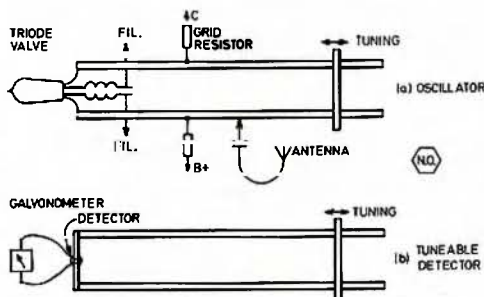

FIG. 2
As stated above, the writer prefers to use an a.t.u. for the reasons given. There are various satisfactory forms of a.t.u. but one which the writer has used for many years and which is extremely flexible electrically and yet does not require the coils to be tapped for optimum feeder loading, is shown in Fig. 2.
Fig. 2.—A suggested aerial tuning unit for use with the G5RV aerial. C1 is a 200/200 pF. split-stator transmitter capacitor, the plate spacing being determined by the power it will have to handle. The coupling capacitor C2 consists of three 500 pF. broadcast receiver variable capacitors connected in parallel. If necessary, this combination may be supplemented by a bank of switched high-voltage mica capacitors.
During his years at Yale University, George Southworth, lecturing and doing graduate studies, performed quite a number of experiments with u.h.f. oscillators and circuit techniques. These techniques subsequently came into common use by Radio Amateurs in the period 1920-1930. Some of this early equipment is illustrated in Fig. 2.
30.5 MHz is the sound IF frequency of 50 per cent. of TV sets as is 36 MHz the video IF frequency, exactly 5.5 MHz apart. By looking at Figure 1 you can see that the TV set has little if any response outside the TV channel. Hang on—wait a minute, if this is so how do I cause the interference? Look again at Figure 1, it will become obvious that this is a voltage versus frequency graph. If 100 per cent. response is shown as 0db and if the plotting of response is done in a decibels versus frequency graph the response pattern shown is vastly different as shown in Figure 2.
Turning once again to Figure 2, it can be seen that the TV's response to your signal at 52.001 MHz is only perhaps 20db down on the response at mid-channel. The skirt selectivity of a good SSB receiver filter should be at least 100db down for a minimum of interference from adjacent stations.
The older TV sets will likely have a better IF selectivity curve. The reason for this being that up to four video IF stages were used, with their attendant coils, and adjacent channel sound and picture traps. The newer sets have as few as two video IF stages and usually no adjacent channel sound or picture traps — although for some these are available at a price. It can be seen by comparing the IF selectivity curves of a two-stage IF Figure 2, with no adjacent channel traps and a four-stage IF, Figure 3, with adjacent channel traps that you will more easily interfere with the former. It is a pity that the IF selectivity of many TV sets has been so degraded in recent years. This appears to be in an effort to cut costs, and as a result it leaves the sets wide open to interference from a variety of sources. You will find sets of different manufacture and/or different models are susceptible to interference to varying degrees.